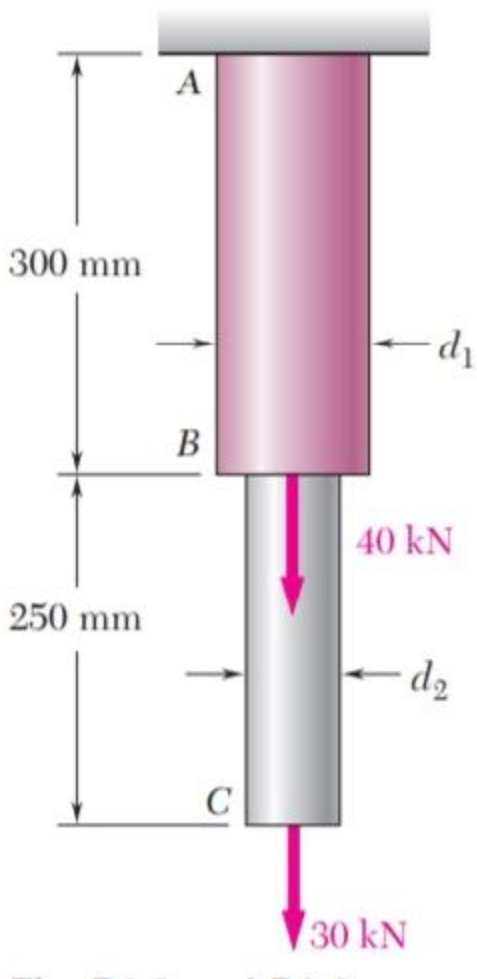

Figure 2
- d. Two solid cylindrical rods AB and BC are welded together at B and loaded as shown in Figure 2. Given that the average normal stress must not exceed 175 MPa in rod AB and 150 MPa in rod BC, determine the smallest allowable values of d_1 and d_2 . [10 marks]